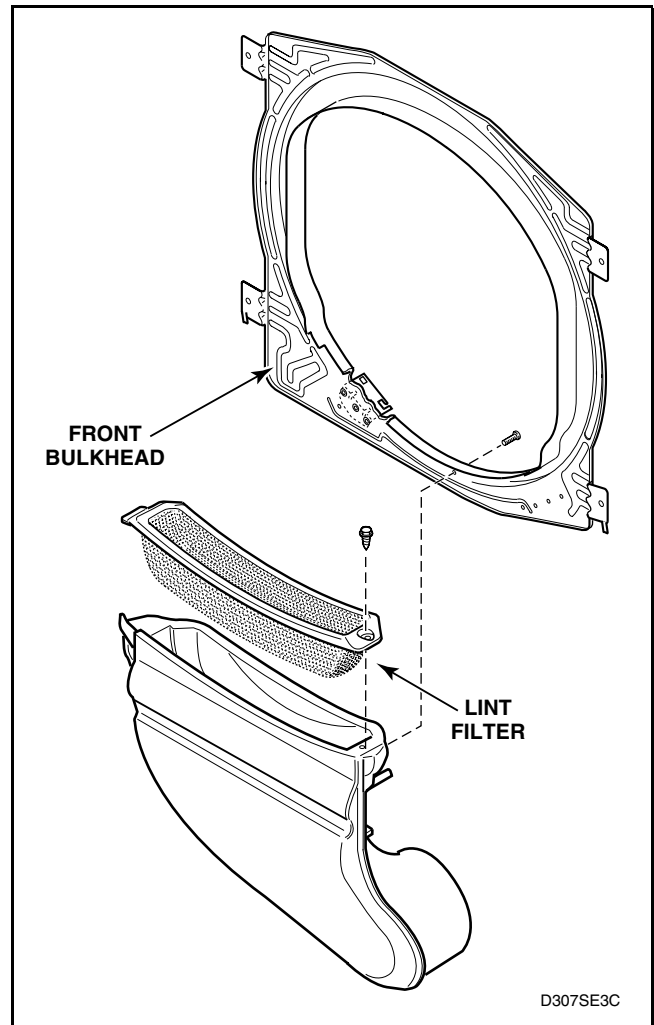

Figure 28
- Remove air duct assembly. Refer to *Figure 28*.